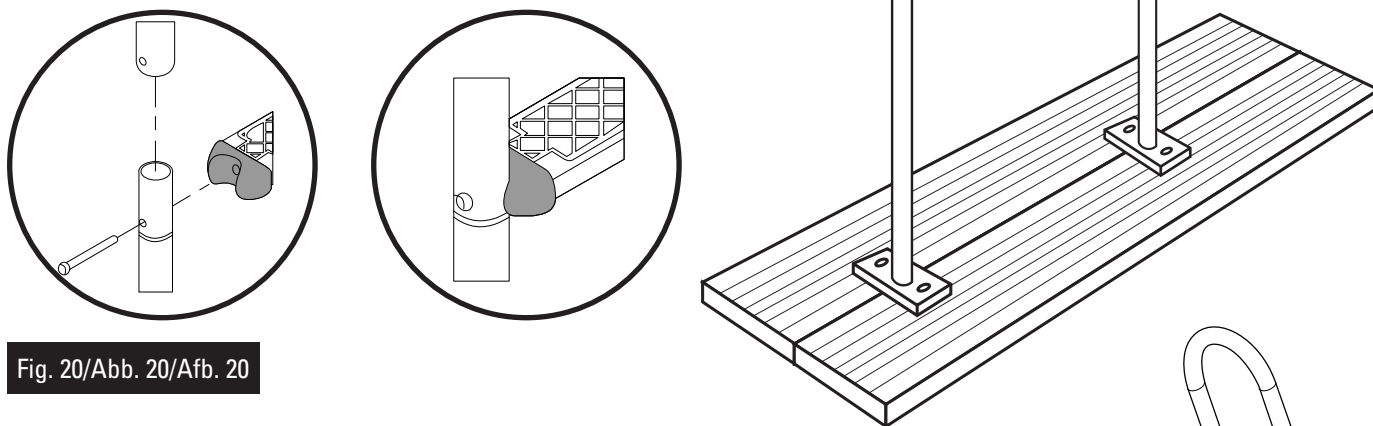
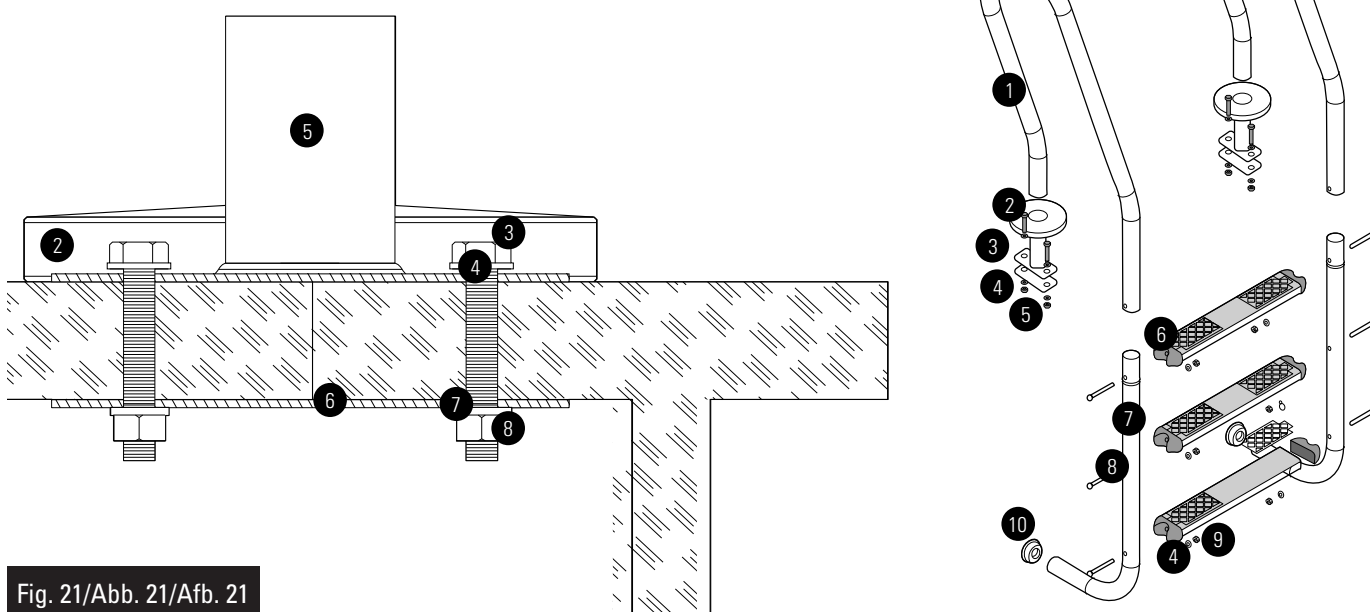

Fig. 20/Abb. 20/Afb. 20
Fig. 21/Abb. 21/Afb. 21
- EN A.- Slot in the upper (1) and lower (10) handrails, fasten them with the steps (9) and the steps to the handrails using screws (11), nuts (8) and washers (7). (Fig.20)
B.- Assemble the end pieces (12) of the handrail so that the ladder cannot damage the pool.
D.- Place against flange with the screws (3) and washers (4,7) and nuts (8) and fasten with spanner 12-13. (Fig.21)
E.- Insert the trim (2).